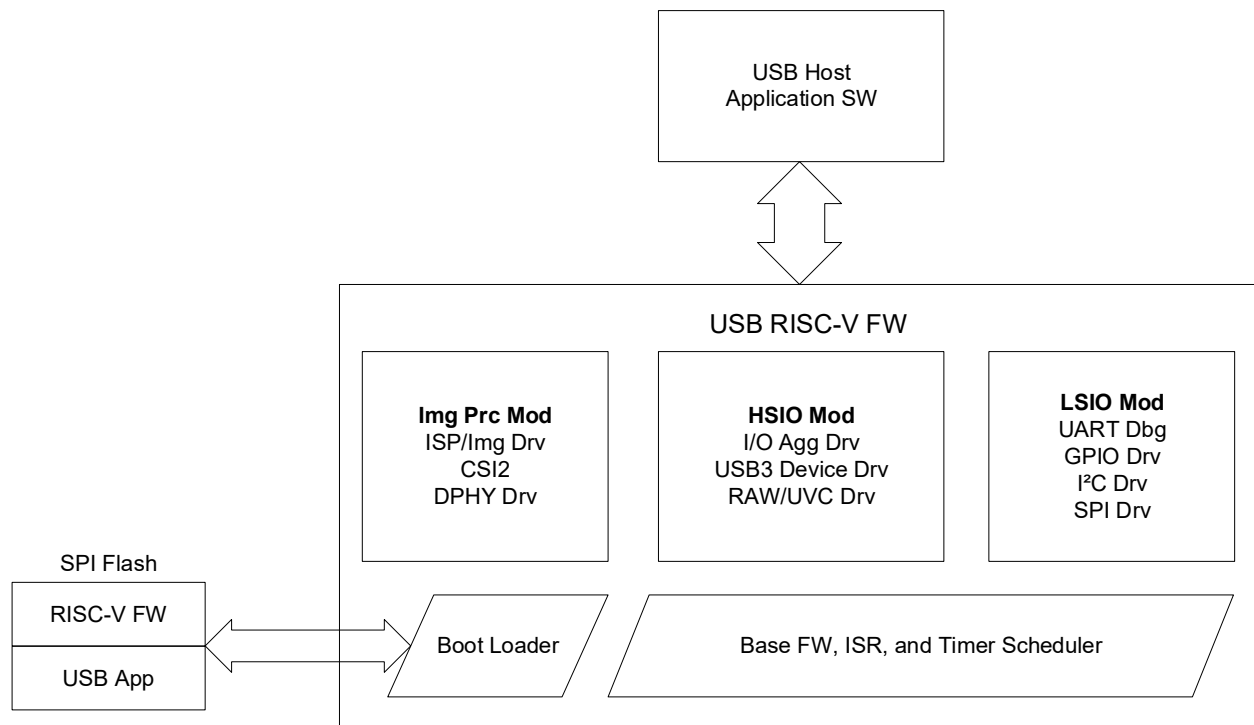

Figure 2.27. LIFCL-33U USB RISC-V Host FW Stack
Figure 2.27 shows the RISC-V Firmware (FW) stack and the Host Software (SW) interface with boot loader pointer to SPI Flash. The SPI Flash holds the FPGA bitfile (USB APP) and RISC-V FW. The FW stack can be bare metal or RTOS-based, with the module in the figure are applicable for corresponding to typical USB application design.